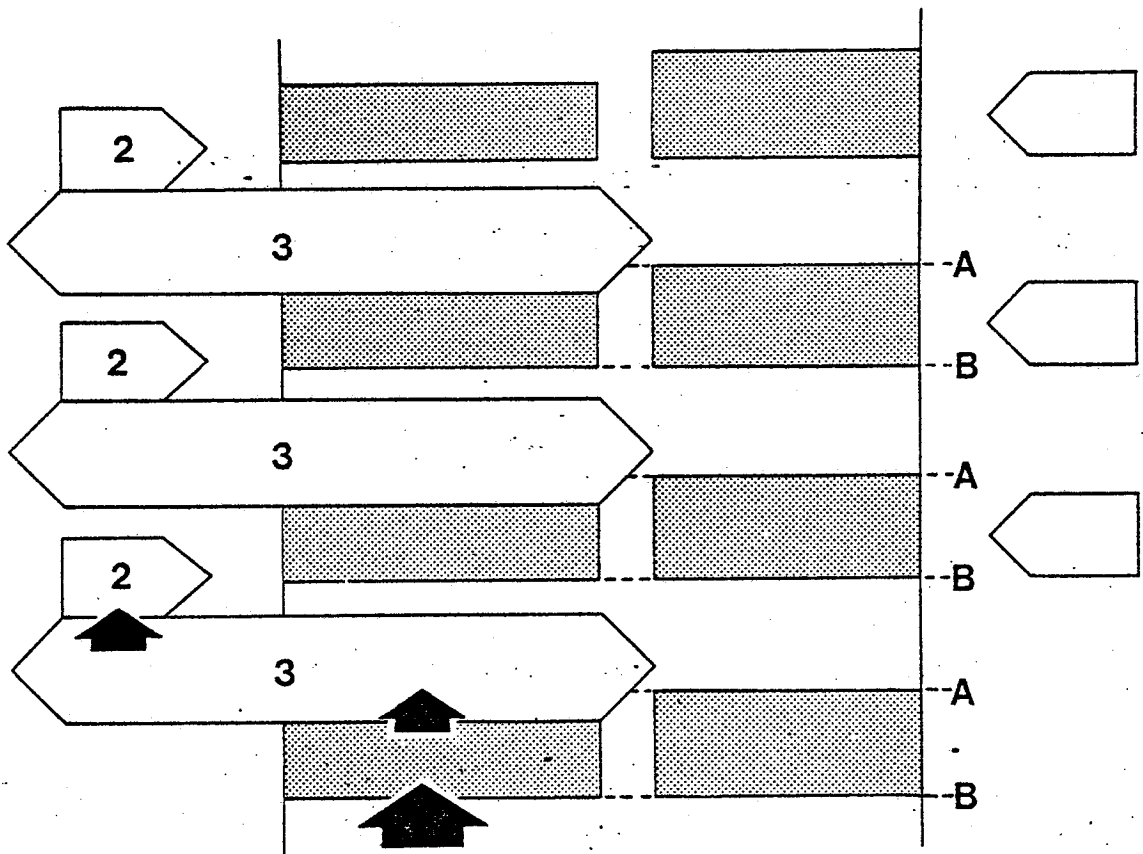

Fig. 66
Figure 66 shows the splines of the synchromesh outer member (3) engaged with second gear dog teeth (2). The arrows show the path of the driving force.
The dog teeth on the right in Fig. 66 are those of 1st gear which employs a different type of locking system and is described in the following paragraph.